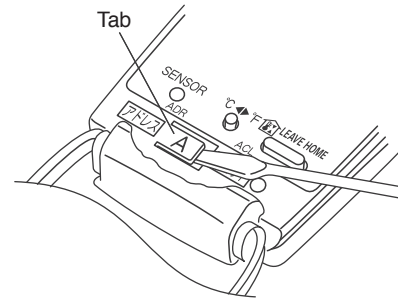
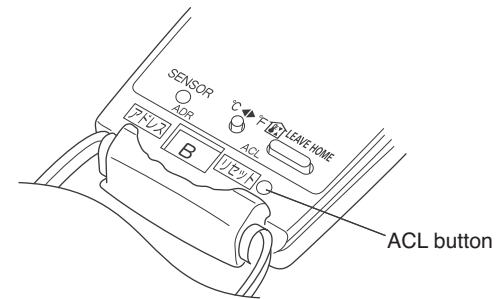
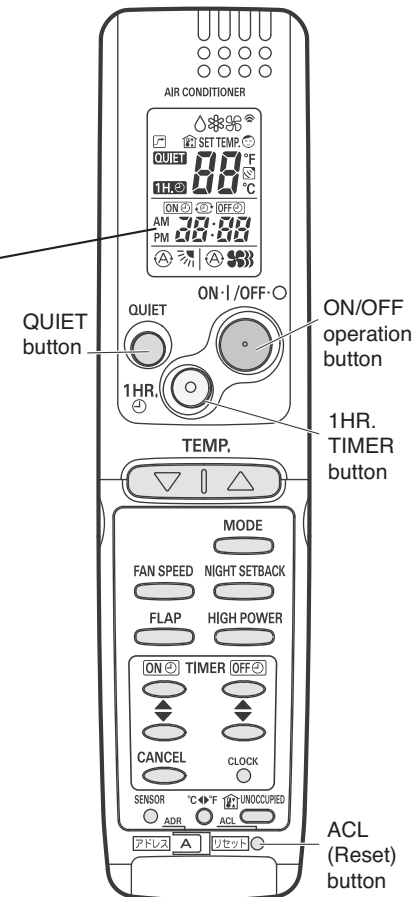

Fig. 62
Fig. 63
Fig. 64
- (1) Switch on the power source.
- (2) Break the address-setting tab marked “A” on the second remote controller to change the address (Fig. 62). When the tab is removed, the address is automatically set to B (Fig. 63).
- (3) Press and hold the remote controller QUIET button and 1HR. TIMER button. Then press and hold the ACL (Reset) button with a pointed object such as the tip of a pen. After 5 seconds, release the ACL button first, then release the QUIET and 1HR. TIMER buttons. “oP-1” (Test Run) appears, blinking in the remote controller clock display area.
- (4) Each time the 1HR. TIMER button is pressed, the display changes as shown below. Press this button 3 times to change the display to “oP-7” (Address setting).
- (5) “oP-7” has now been selected for address setting.
- (6) Press the ON/OFF operation button on the remote controller. (Fig. 64) Check that the “beep” signal-received sound is heard from the second indoor unit (approximately 5 times). The sound you hear is the signal that the remote controller address has been changed.
- (7) Finally press the remote controller ACL (Reset) button to cancel the blinking “oP-7” display. (Fig. 64)